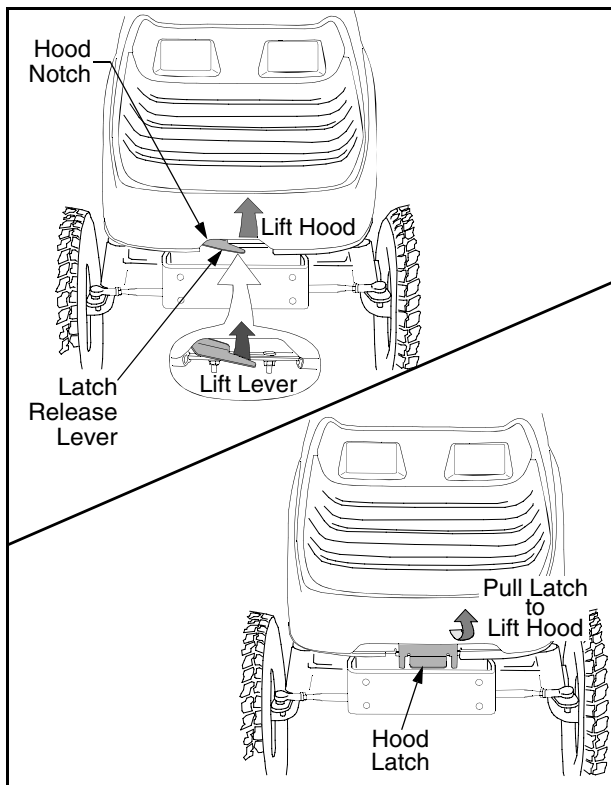

Figure 33
- **Tractors with Hood Latch Bracket.** Pull the hood latch bracket forward/upward to release the front of hood; then lift hood. See Figure 33.